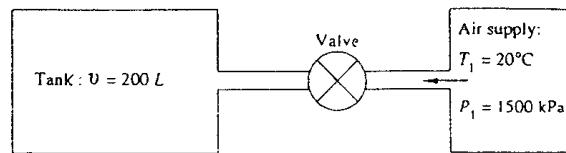

Fig. P3.143
**3.143** The insulated tank in Fig. P3.143 is to be filled from a high-pressure air supply. Initial conditions in the tank are  $T = 20^\circ\text{C}$  and  $p = 200 \text{ kPa}$ . When the valve is opened, the initial mass flow rate into the tank is  $0.013 \text{ kg/s}$ . Assuming an ideal gas, estimate the initial rate of temperature rise of the air in the tank.